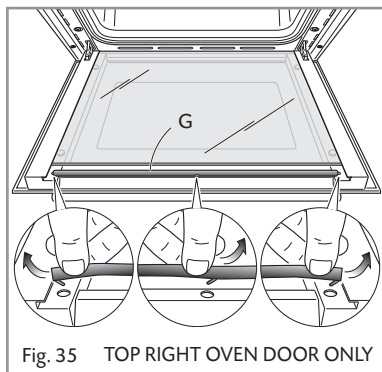

Fig. 35 TOP RIGHT OVEN DOOR ONLY
- **Top right oven door only:** Remove the seal **G** by unhooking the three fixing hooks (Fig. 35).